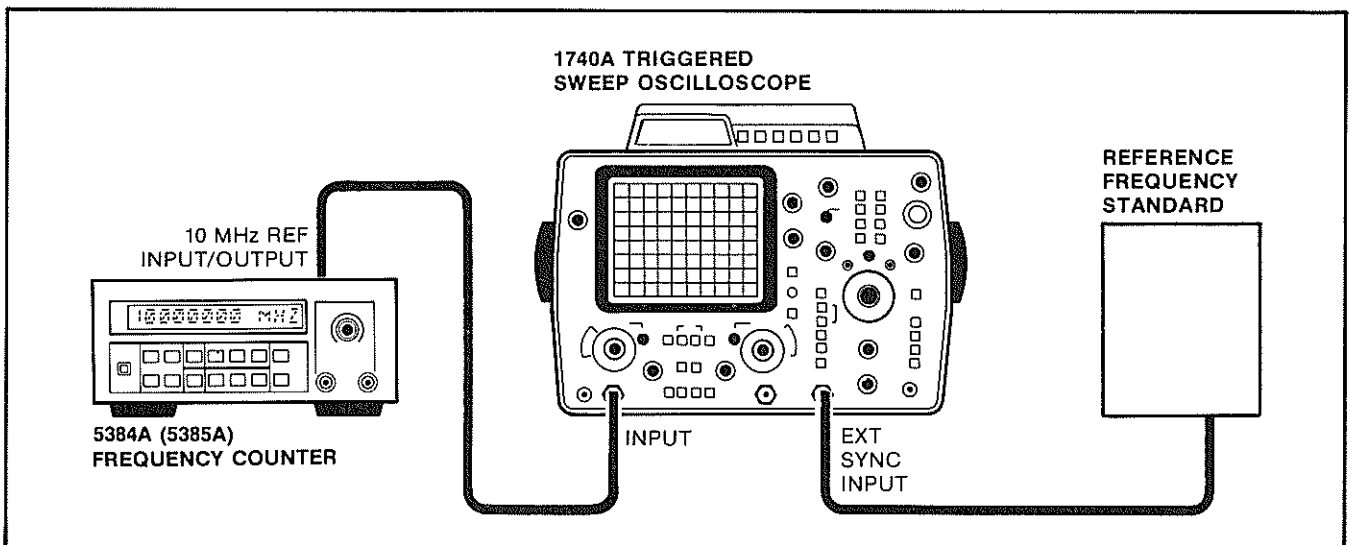

Figure 5-7. TCXO Adjustment Test Setup.
a. Connect a house standard (reference frequency) to the external SYNC input of a 1740A oscilloscope as shown in Figure 5-7. Set the 1740A oscilloscope to External SYNC.
b. Connect the 5384A/5385A rear panel 10 MHz REFERENCE IN/OUT to the channel A input of the 1740A oscilloscope as shown in Figure 5-7.